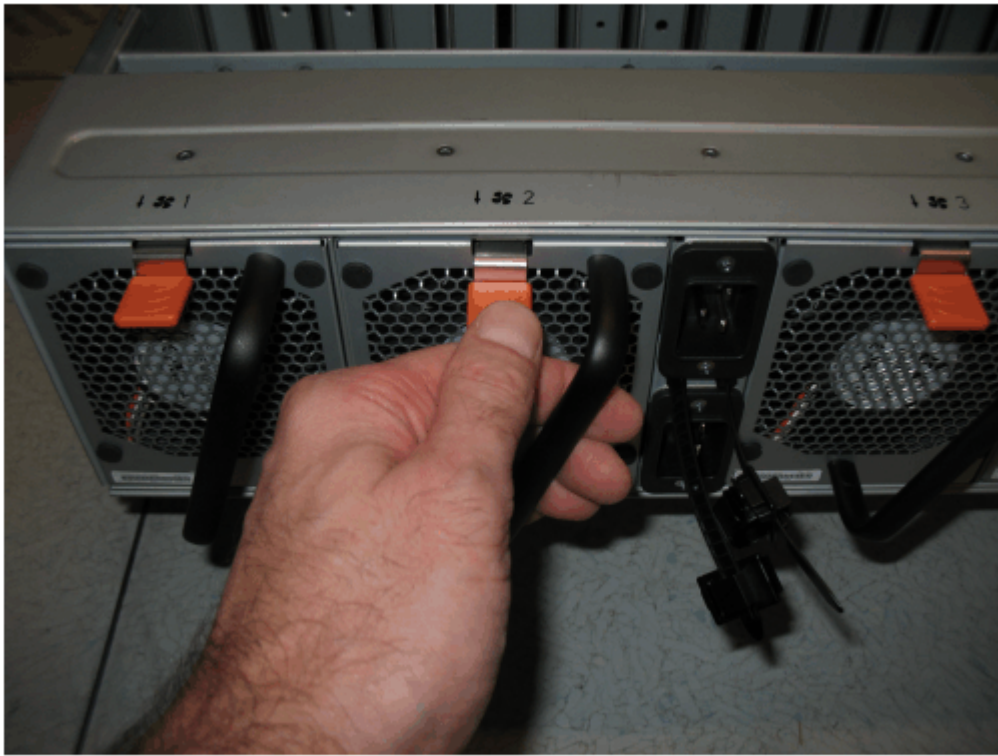

Figure 183. Fan module release tab
2. Press the release tab on the fan module, as Figure 183 on page 210 shows.